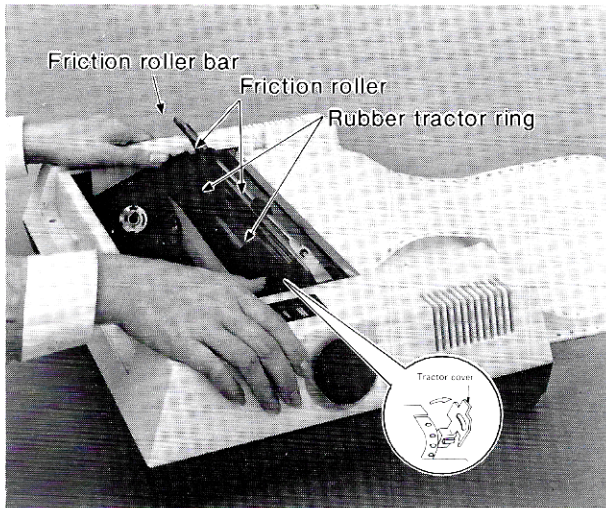

Figure 15
d) Next, lift up the friction roller bar and open the left and right tractor covers by lifting them up and turning them to the outside (figure 15).
e) With the holes along both edges of the paper matched up with the paper feed pins on the left and right tractors, close the tractor covers. Lower the friction roller bar, positioning the friction rollers on the bar so that they rest directly on top of the two large rubber tractor rings (figures 15 and 16).